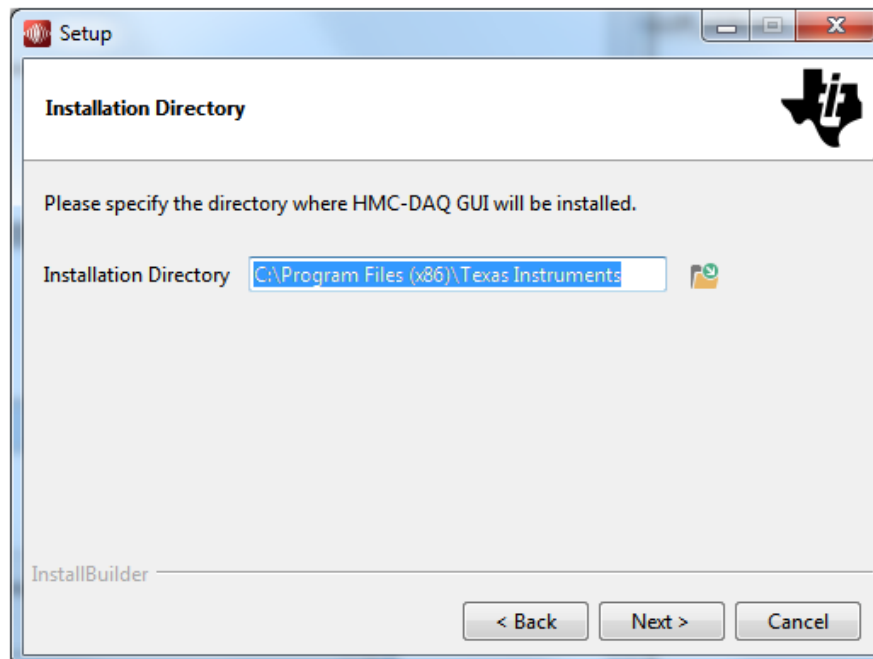

Figure 37. HMC-DAQ GUI Install (Install Directory)
4. Allow the software to be installed in the default location by pressing the *Next* button, as in Figure 37.